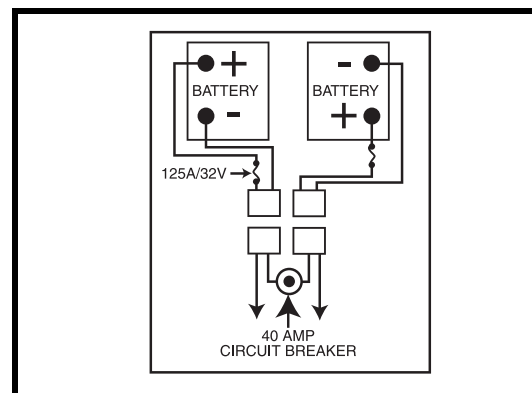

Figure 12. Battery Wiring Diagram
6. Place a new battery in each battery well. Face the battery terminals of each battery away from the seat post. See figure 12.